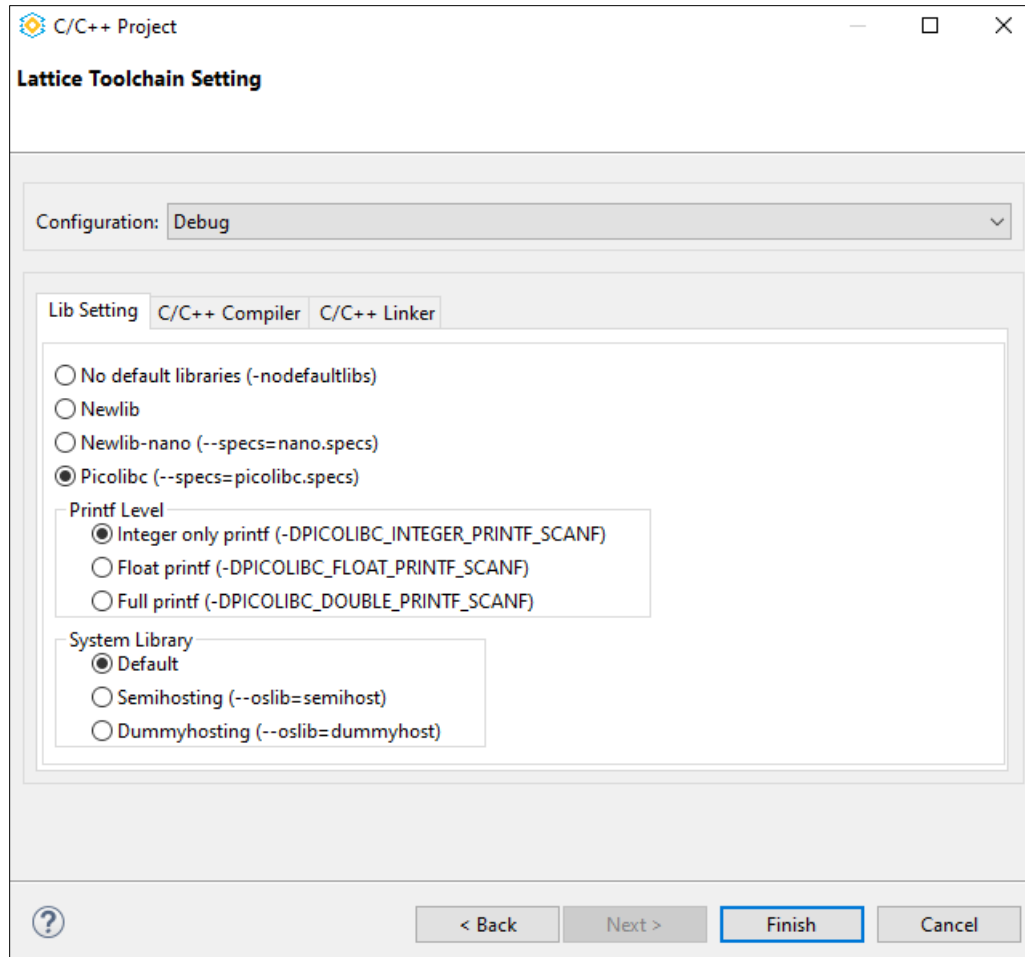

Figure 3.25. Lattice Toolchain Setting Dialog 1
10. Click **Next**. The **Lattice Toolchain Setting** dialog opens (Figure 3.25).